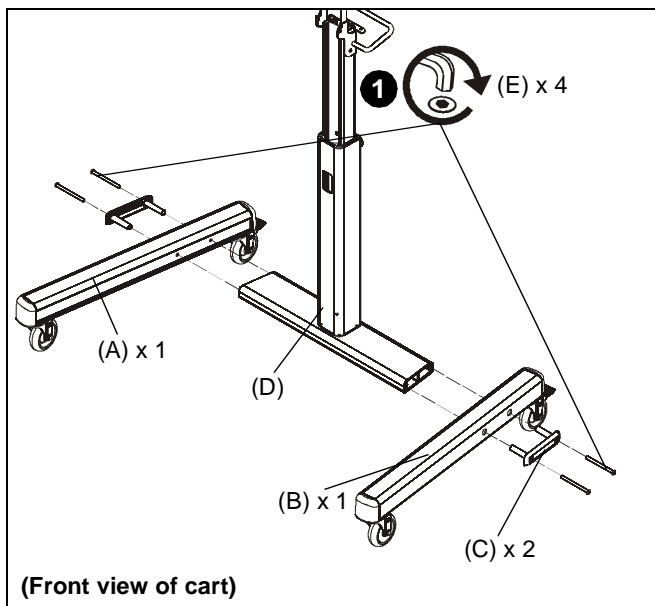

Figure 1
1. Assemble two legs (A and B) to the column assembly (D) using two 5/16-18 x 4-1/4" button head cap screws (E) and one end cap (C) per leg. (See Figure 1)